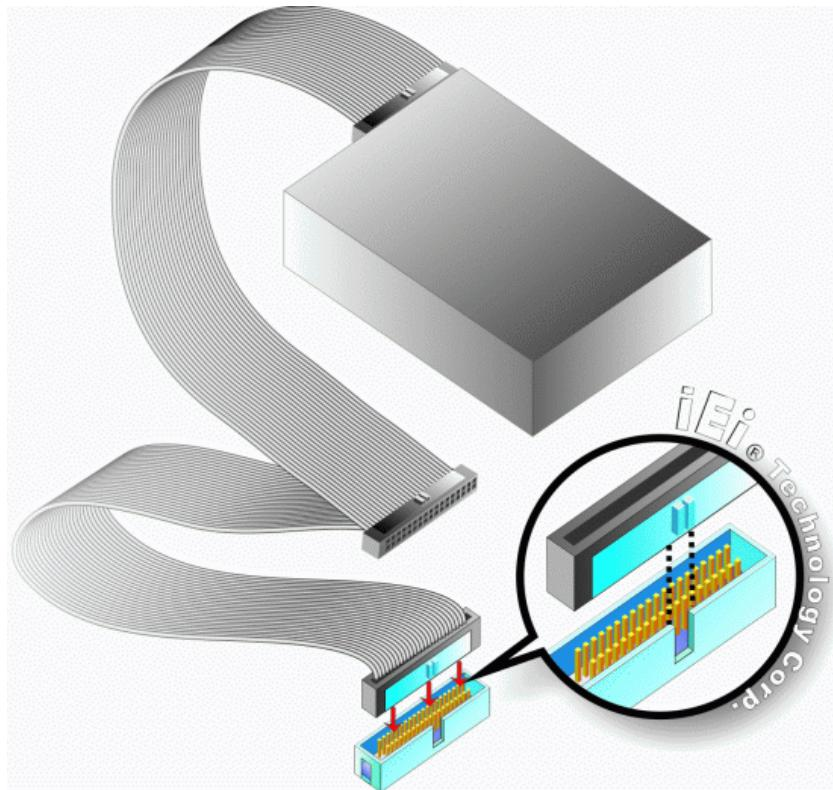

Figure 5-14: IDE Cable Connection
Step 5: Insert the connector. Connect the IDE cable connector to the onboard connector. See Figure 5-14. A key on the front of the cable connector ensures it can only be inserted in one direction.